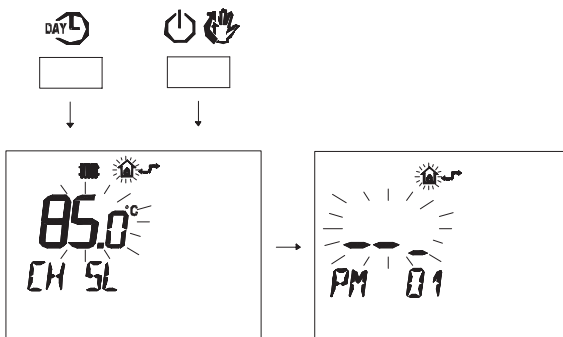

Fig. 7.37
- Press buttons and at the same time to enter transparent programming (Fig. 7.37).